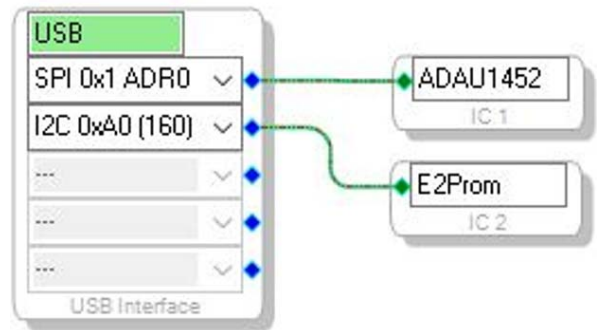

Figure 69. E2Prom Setup in Hardware Configuration Tab
3. Set the communication mode to **SPI 0x1 ADR0** by clicking the text fields of the **USB Interface** block (see Figure 69). There is no physical connection between the **USBi** connector (a connector to the evaluation board) and the evaluation EEPROM on the EVAL-ADAU1452REVBZ board. Therefore, SigmaStudio cannot directly communicate with the EEPROM. To circumvent this lack of communication, SigmaStudio writes a program to the ADAU1452, which then uses the master SPI port to write the self boot data to the EEPROM. Adding the **IC2** block allows users to configure the EEPROM and informs SigmaStudio that a hex file must be produced.
4. The pull-down text field in the **USB Interface** block sets the type of communication the EEPROM uses. Both SPI and I²C are supported communication types and can differ from the communication standard used by ADAU1452 the slave port. As shown in Figure 69, users are recommended to connect the **IC2** block to an unused pin on the **USB Interface** block.